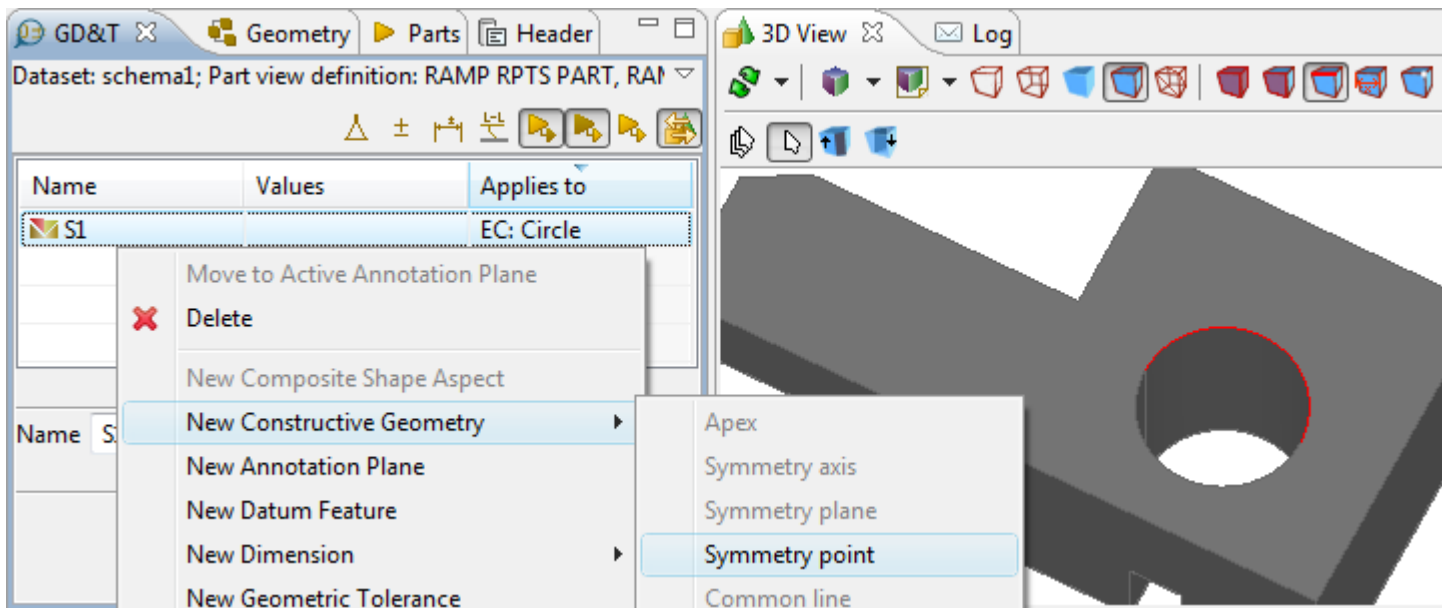

Figure 1. Selected items: circle item, menu item to create symmetry point in GD&T view and circle in 3D View
- Right click and select **New Constructive Geometry -> Symmetry point** item in the appeared context sensitive menu (see Figure 1).